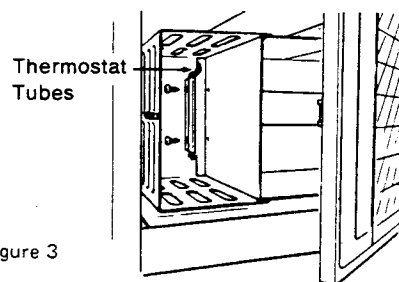

Figure 3
3. Check to see that the thermostat tubes are firmly in place (see figure 3).